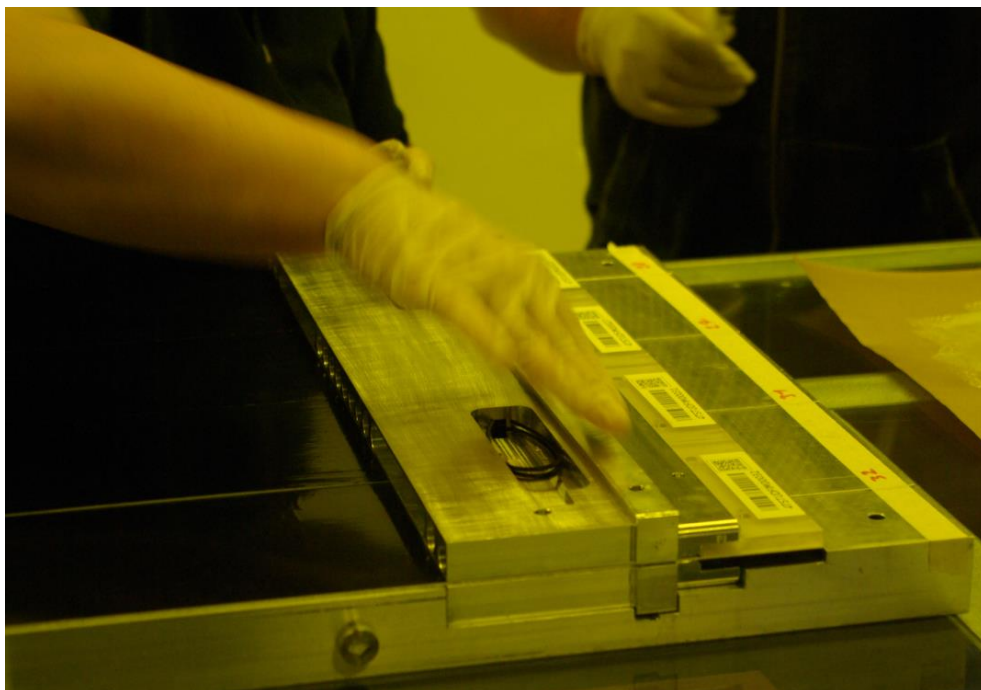
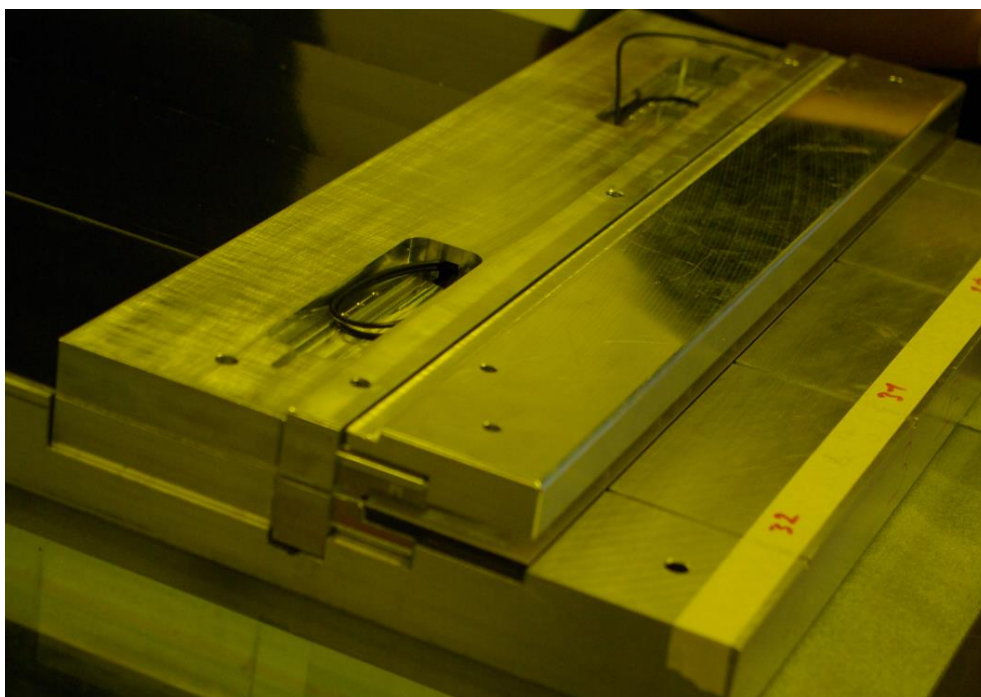

Figure 41 Endplug on mats
Figure 42 Bridge “HE_LHCB_SCIFI_VOR_GJ_008201_D_0__ABSTECKVORRICHTING-EPIECE-EPlug”
- 5.1.4.8 Place endplugs (Figure 41) and align with bridges
“HE_LHCB_SCIFI_VOR_GJ_008201_D_0__ABSTECKVORRICHTING-EPIECE-EPlug” to the endpieces and dowel pins 4 x Ø6x20/M3 and 4 x Ø6x13/M3. After the dowel pins are well placed, remove the M3 screws. (Figure 42 and Figure 43)
Note: on Figure 41 and Figure 42 you can see tape on the jig with ending numbers of the mats written on it to remind the respective positions of the mats after the record and dry assembly)